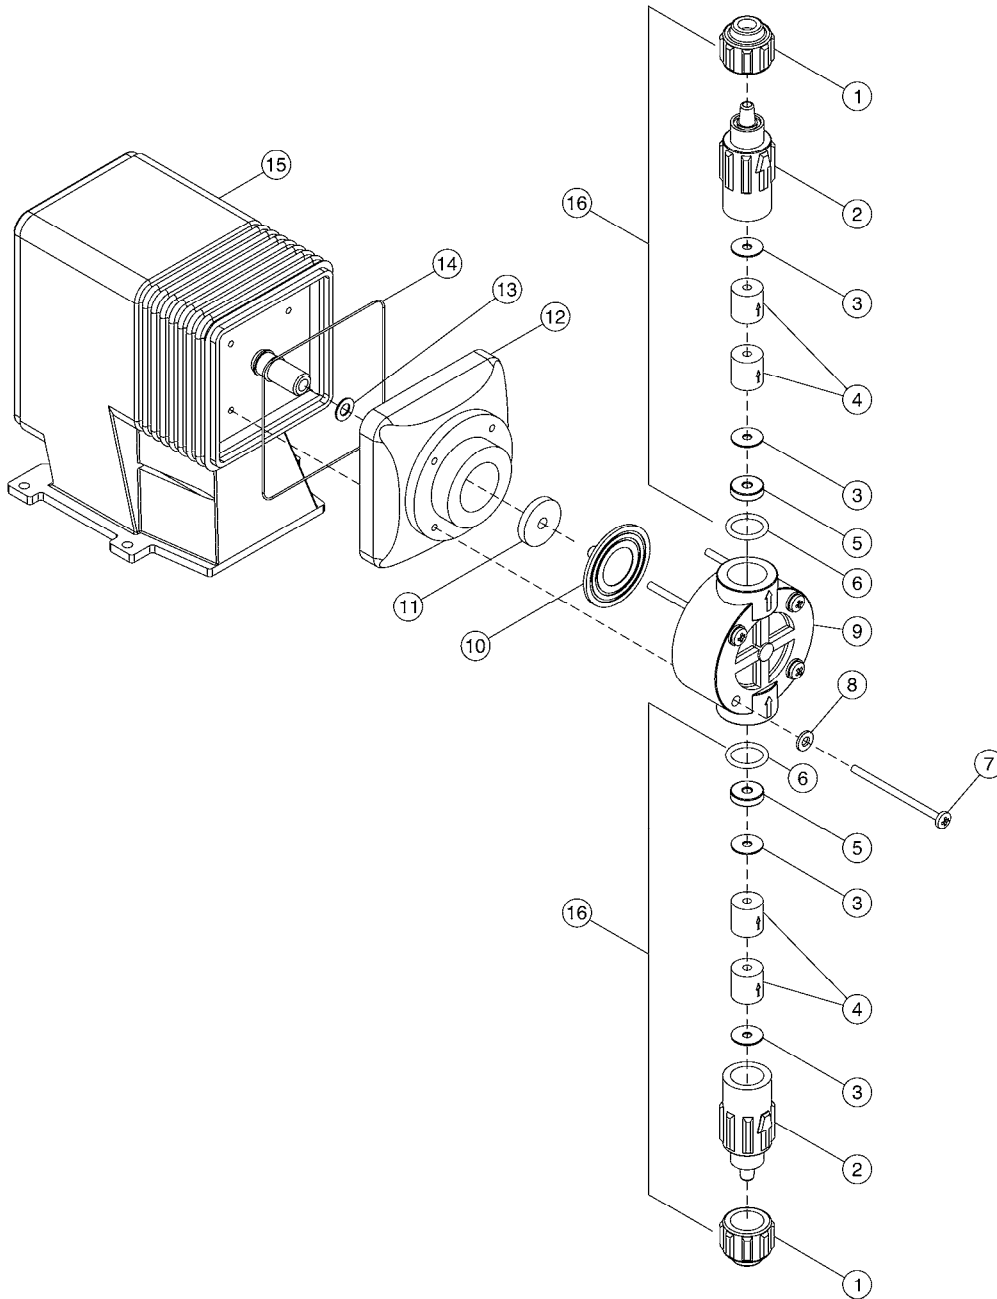

Figure 1-3. Exploded view of the Metering Pump.
- For optimum performance, the check valve cartridges (see Figure 1-3) should be changed every 6-12 months.
- 1. Refer to Figure 1-3 to locate and identify the various components of the Metering Pump.